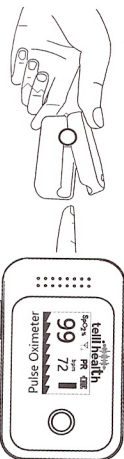

Figure 5
1. After properly installing two AAA batteries, push down on the lid's press sign as shown in the **Figure 5** and open the clip. Place the testee's finger between the rubber cushions of the clip. Make sure the finger is in the right position as shown in **Figure 5**, then release the clip.